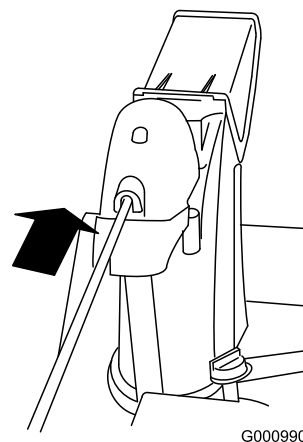

Figure 7
13. Insert the long rod end into the back of the chute gear cover until it slides into the gear (Figure 7).